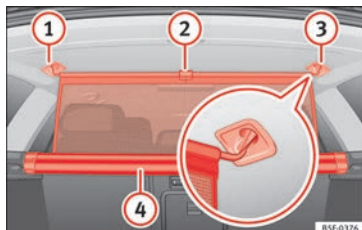

Fig. 171 In the luggage compartment: pulling out and securing the net partition.
- Pull up handle »» Fig. 171 (2) to remove the net from the casing (4).
- Hook in the net partition on the right side (3) (magnified image).
- Hook in the net partition in the left side housing (1) pulling the rod.